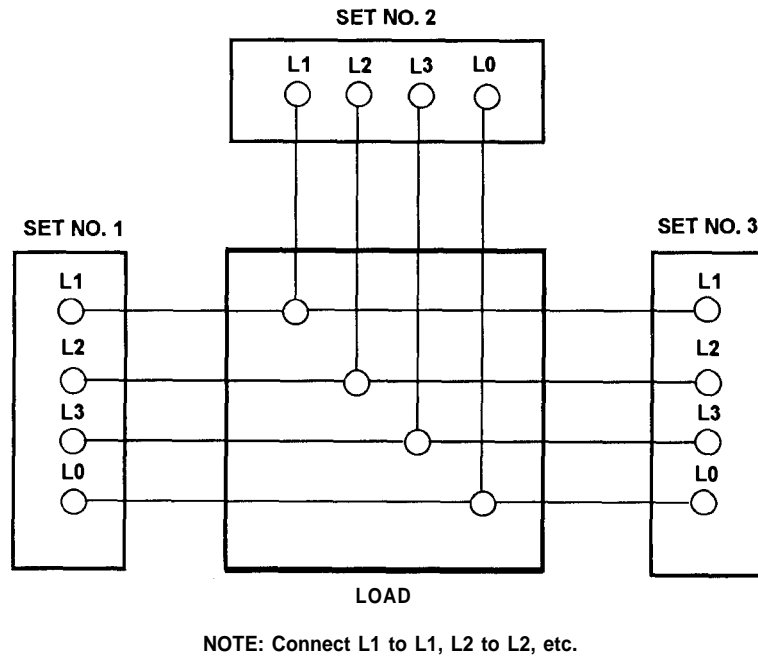
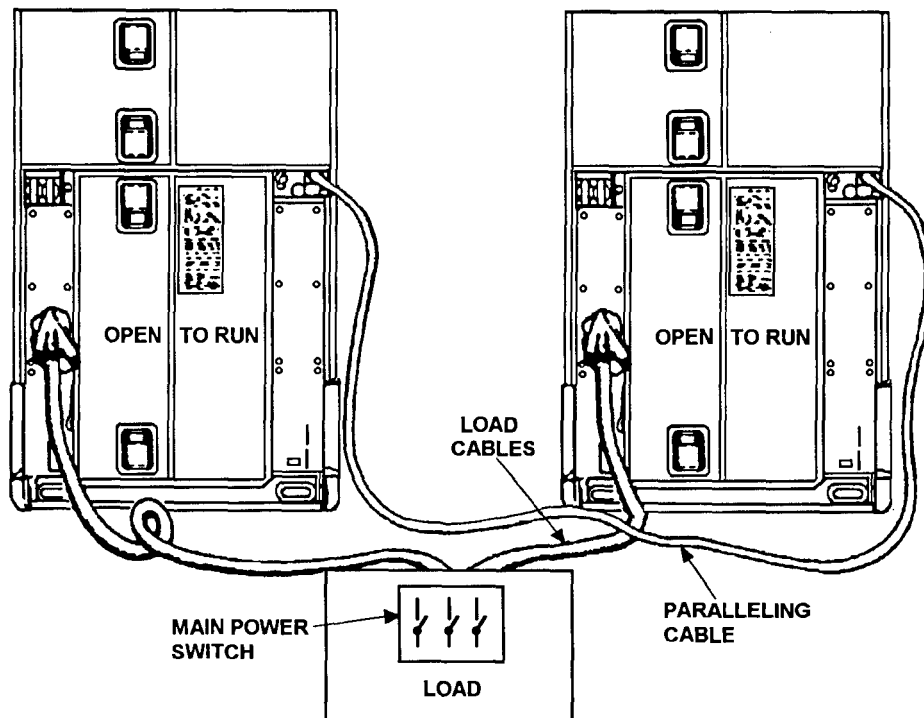

Figure 2-5. Parallel Connection
Figure 2-6. Paralleling for Load Transfer
- e. Connect load leads and paralleling cables as shown in Figure 2-5 and Figure 2-6.
Check that the main power switch (Figure 2-6) at the load is open before attempting to place a generator set on line. Equipment damage could result if caution is not observed.
Observe the synchronizing lights of the “on-coming” set. The lights should go on and off simultaneously. If the lights go on and off alternately, sets are out of phase. Stop both sets and correct interconnect cables (Figure 2-5). If the problem persists, refer to next higher level of maintenance.
Visually check that the power cable and parallel cable are in accordance with Figure 2-6. If the cables are not attached as indicated, shutdown the "on-line" set and follow instructions in paragraph 2-9.